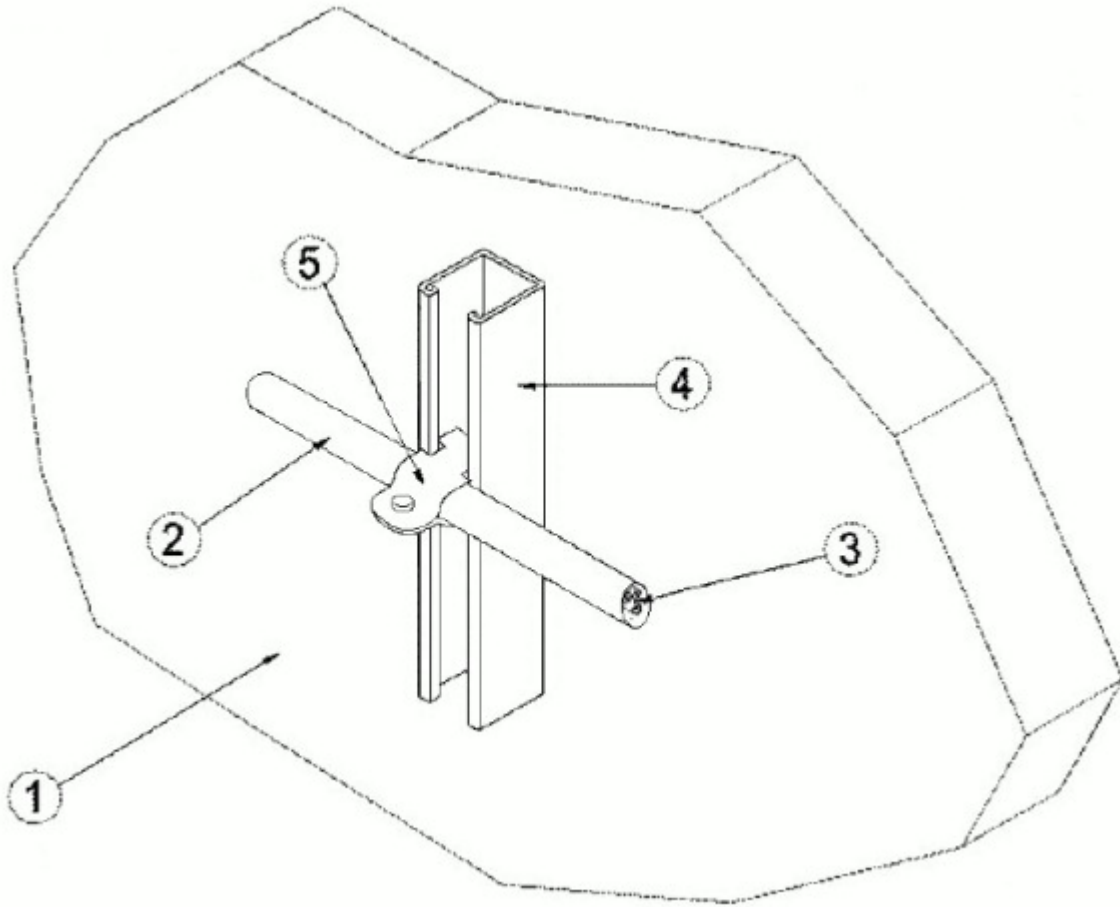

Fig. 1
4. **Supports** — (Figure 1) — Min 12 gauge, by 1-1/2 in. wide or 1-5/8 in wide, painted or unpainted, slotted steel channels with hemmed flange edges. Channel bottom with or without holes. Lengths of slotted steel channels 5 ft and less shall be secured to the wall or floor with a min of two 1/4 in. diameter (or larger) by 2-1/4 in. min long concrete screws, or 1/4 in. diameter (or larger) by 1-3/4 in. long min steel masonry anchors. One screw or anchor to be located at each end of the slotted steel channel. Lengths of slotted steel channel in excess of 5 ft require a min of three screws or anchors, one at each end of the channel and one centrally located within the length of the channel. The supports shall be spaced a maximum of 5 ft. OC. When installing cable(s) in vertical runs, the maximum distance of cable within raceway shall be 24 ft.